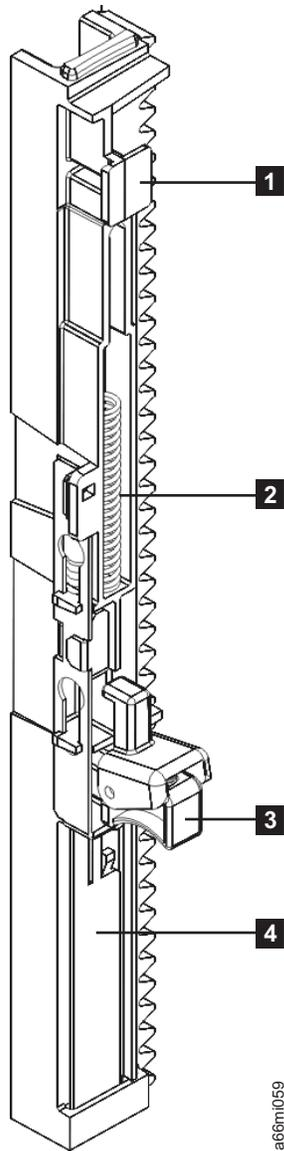

Figure 8-57. Gear rack (detail)
**Note:** Don't lose the spring ( **2** in Figure 8-57 on page 8-60) that is recessed in the gear rack slot.
2. Using your thumb, push the metal slide ( **4** in Figure 8-57 on page 8-60) toward the gear rack locking mechanism ( **3** in Figure 8-57 on page 8-60) and hold it in place while inserting the black tab ( **1** in Figure 8-57 on page 8-60) and locking mechanism into the keyhole slots in the library chassis.